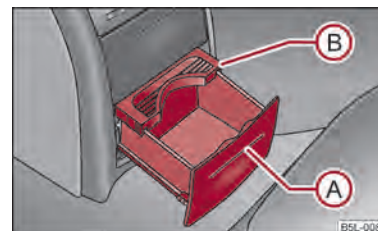

Fig. 69 Centre console at rear: Cup holder
- Press on the panel in the area (A) ⇒ fig. 69 - the cup holder comes out.
- Adjust the cup holder by moving the locking plate (B).